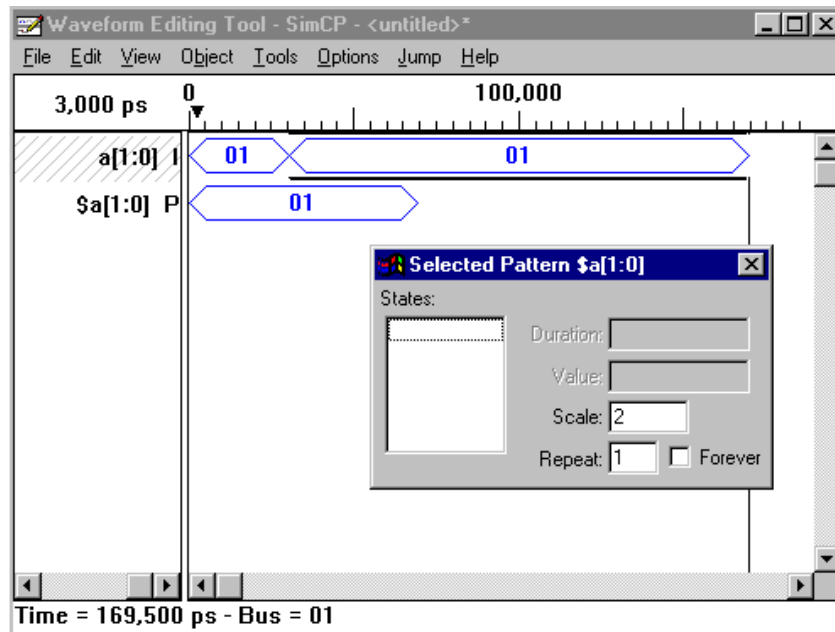

Figure 4-11. Waveform Editor Toolbox
2. Click the Scale edit box in the Waveform Editor Toolbox (Figure 4-11).